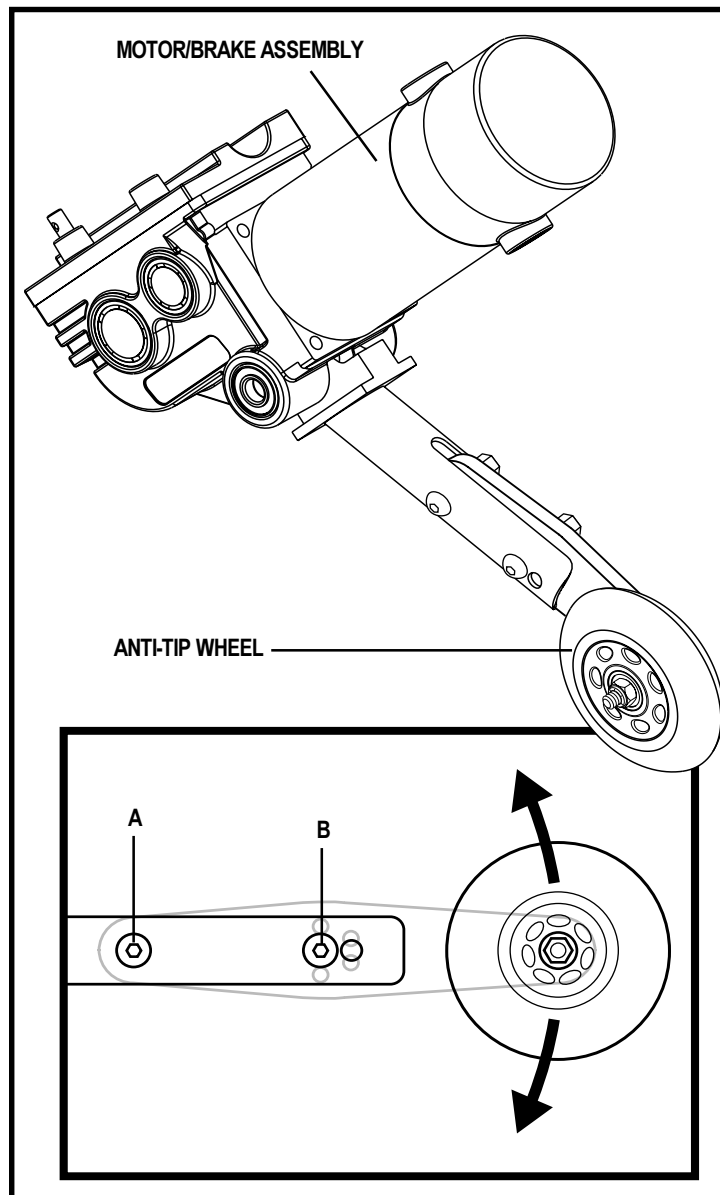

Figure 18. Anti-Tip Wheel Assembly
1. Loosen bolt A. See figure 18.